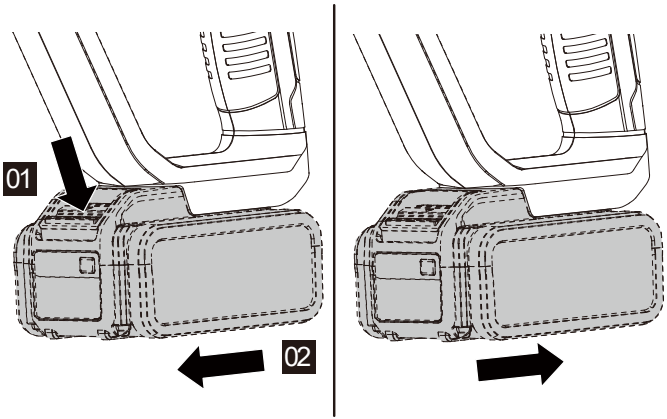

Figure 3
3. REMOVING OR INSTALLING THE BATTERY PACK (NOT SUPPLIED) (SEE FIG. 3)